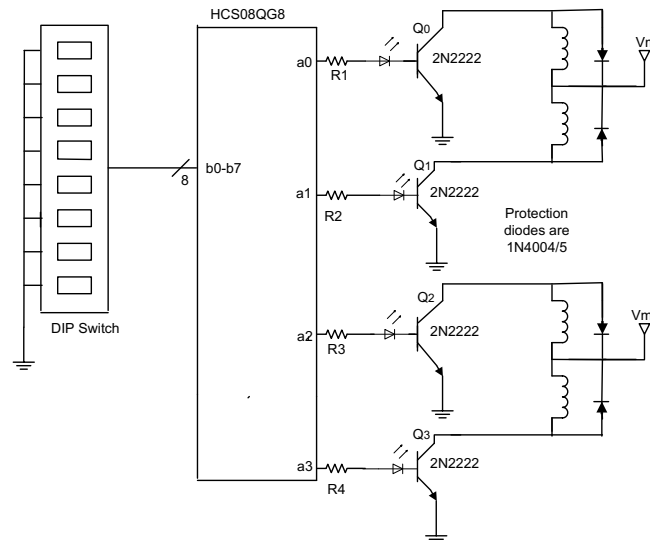

Figure 6 Stepper Motor Drive Circuit
9) Unplug the USB cable to the DEMO board. Remove your microcontroller from the DEMO board (carefully!) and place it on your solderless breadboard as shown in Figure 6. Plug the USB cable in again. The microcontroller should be powered. (Check it!) Now, apply 5 Volt power to your stepper circuit. The motor should run!